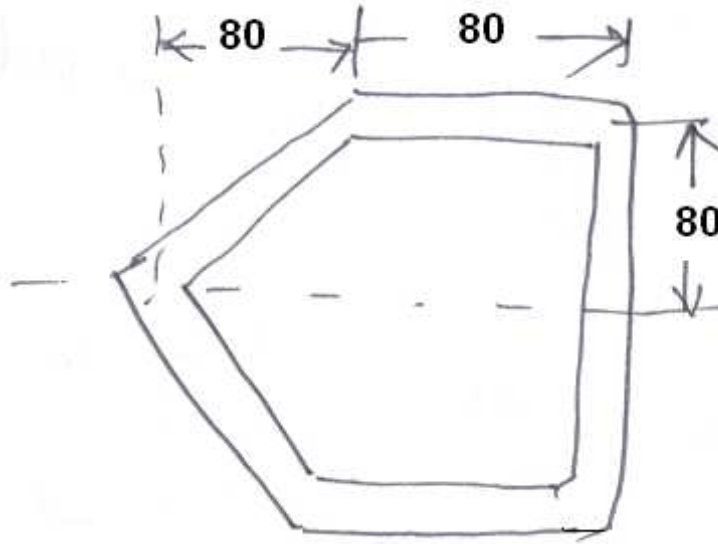

Figure 5:
5. $t=3\text{mm}$ uniform locate the shear centre for the aircraft box beam. Shown in Figure 5. [16]